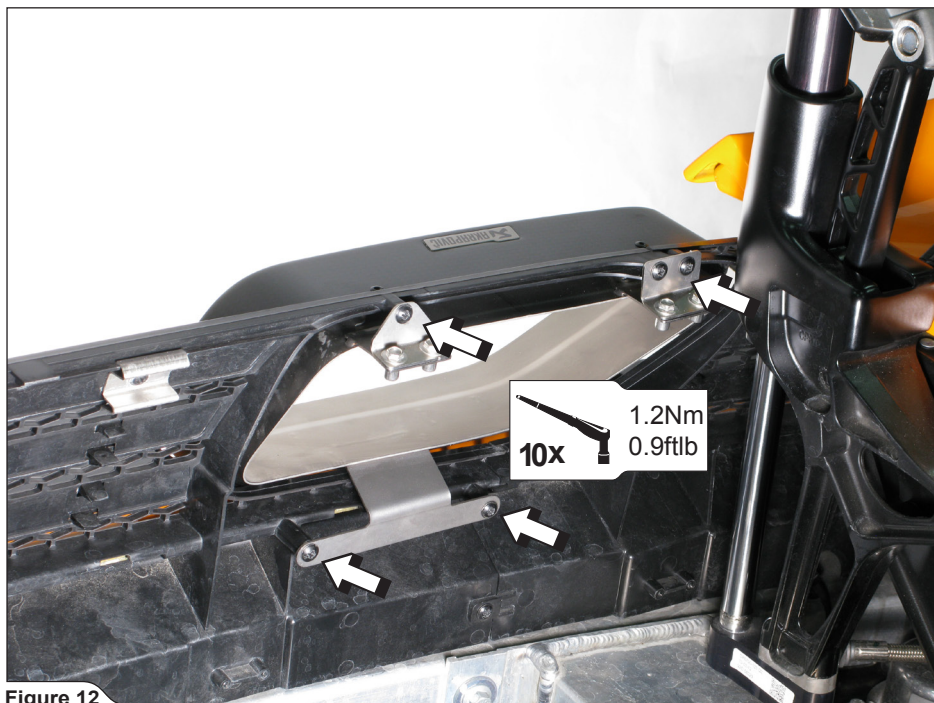

Figure 12
- Adjust and center both tail pipes in respect to the trim panel and rear bumper and screw the tail pipes onto the trim panel, using stock bolts (Figure 12).